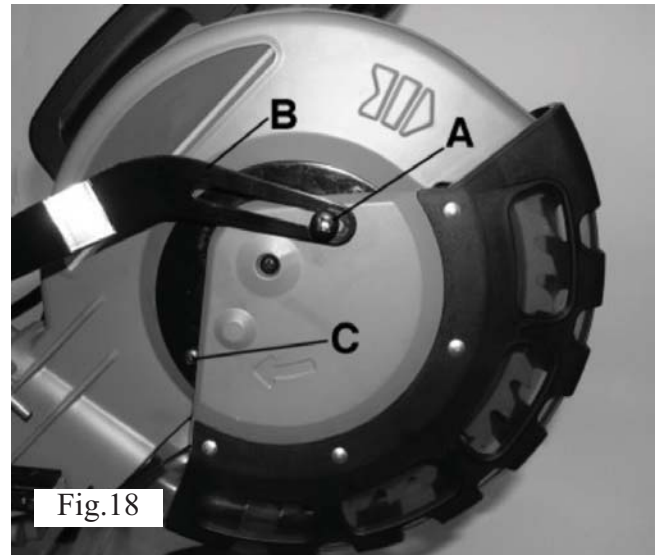

Fig.18
4. Unscrew and remove large screw (A) Fig.18, and move the blade guard pivot link arm (B) out of the way. Unscrew and remove pan head screw (C) which fixes the guard plate and lower blade guard to the upper blade guard.